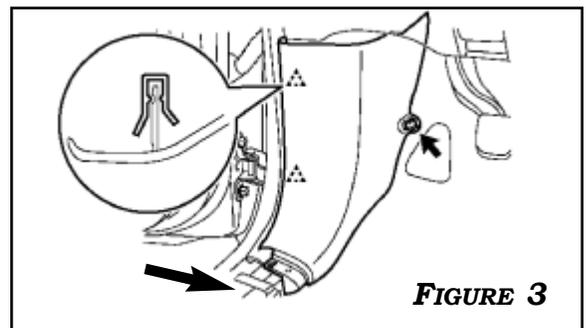

FIGURE 3
3. DISENGAGE THE 8 CLAWS AND CLIP, AND REMOVE THE LEFT FRONT DOOR SCUFF PLATE. REMOVE THE CLIP. DISENGAGE THE 2 CLIPS AND REMOVE THE COWL SIDE TRIM BOARD. **FIGURE 3**